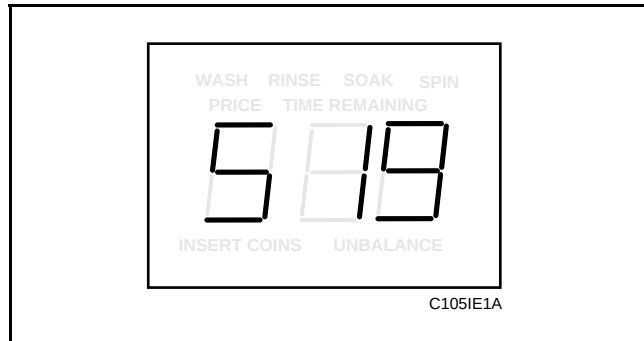

Figure 88
2. While pressing and holding the PERM PRESS keypad with one hand, press the COLD keypad with the other hand. Programmable option number one, “Slg”, will appear in the VFD. See **Figure 88**.